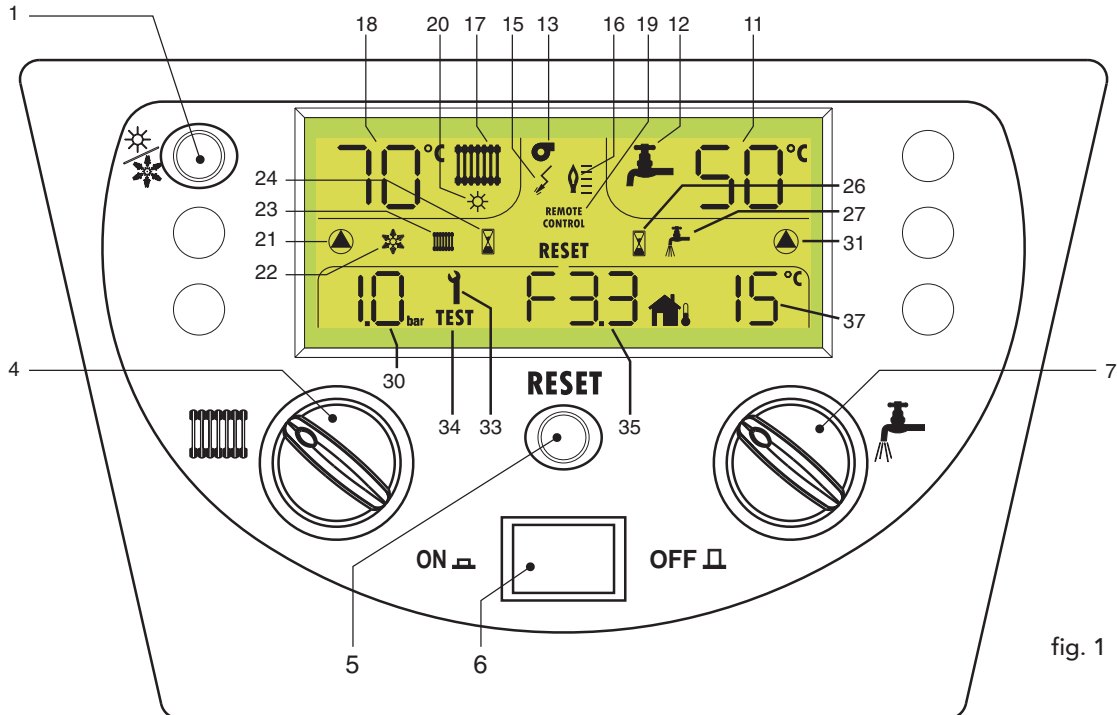

fig. 1
To reset the boiler, press Reset (5 - fig. 1).
This appears when the SUMMER mode is activated (☀️ - 1 fig. 1).
- Press the ON/OFF key in to turn on boiler (see fig. 1).
Press the ON/OFF key (see fig. 1).
To select either mode, simply press the key   (1 - fig. 1).
If together with the fault the display also shows **RESET**, the user must reset boiler operation by pressing the key  (5 - fig. 1). The ignition cycle will thus be repeated.